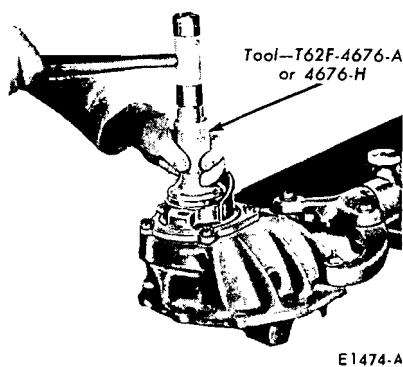

FIG. 48—Installing Oil Seal
6. Install a new pinion oil seal in the bearing retainer Fig. 48. On vehicles with high performance engines, use tool T58L-4676-A or tool 4676-F.